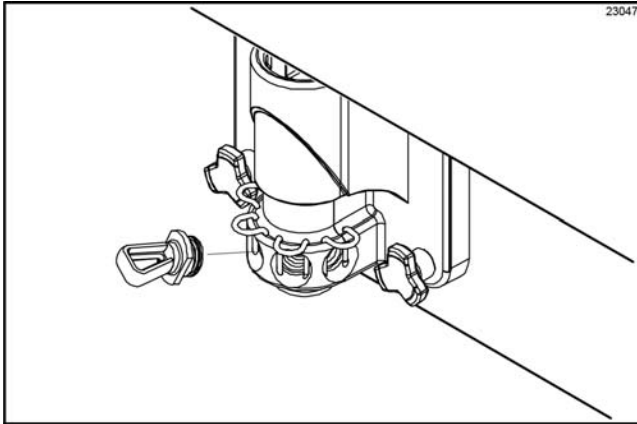

Figure 6-48
2. Install syrup hole plugs in the syrup ports in the freezer door. (See Figure 6-48.)